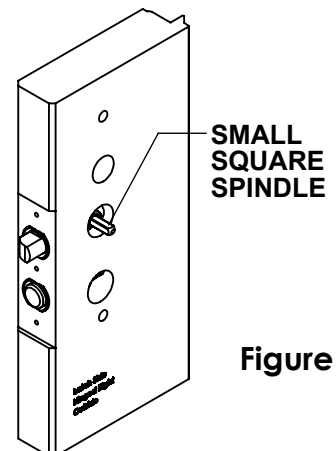

Figure 3
Step 4. Insert **SMALL SQUARE SPINDLE** in the square hole in the **LIVEBOLT ASSEMBLY** with the end of the spindle approximately flush with the outside surface of the door. See Figure 3.